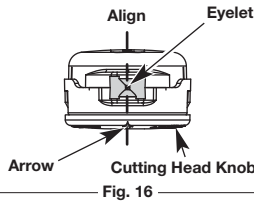

Fig. 16
- Align the arrows on the cutting head knob with the outer spool eyelets, if they are not already. (Fig. 16)